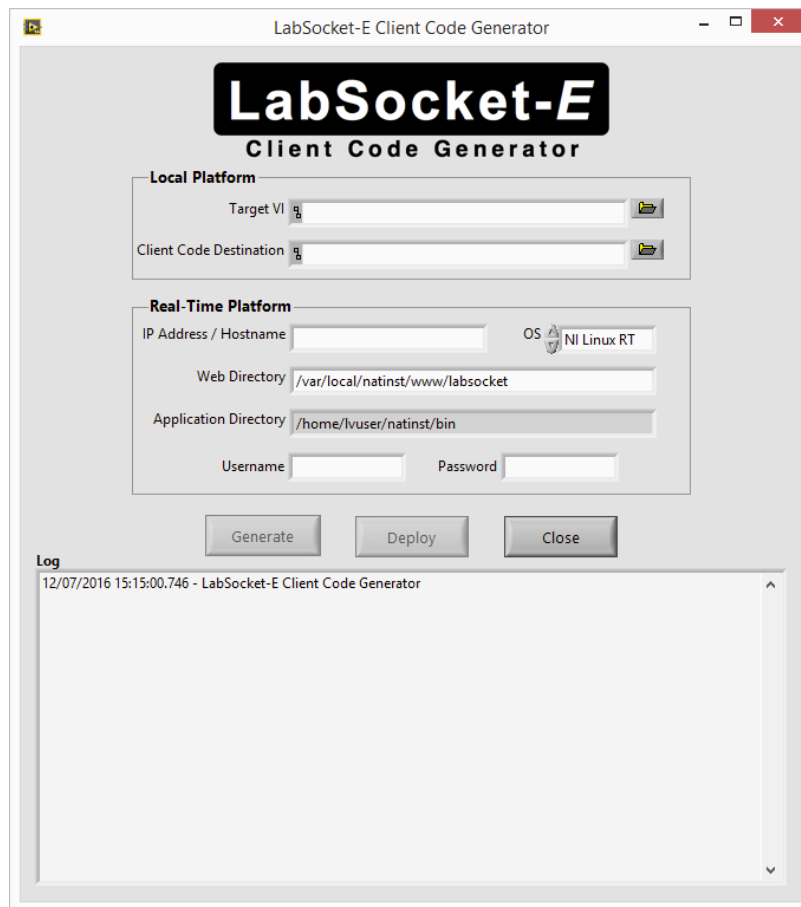

Figure 6.3. LabSocket-E Client Code Generator
1. Select **Tools>LabSocket-E>LabSocket-E Client Code Generator....** The LabSocket-E Client Code Generator window (Figure 6.3) will open.